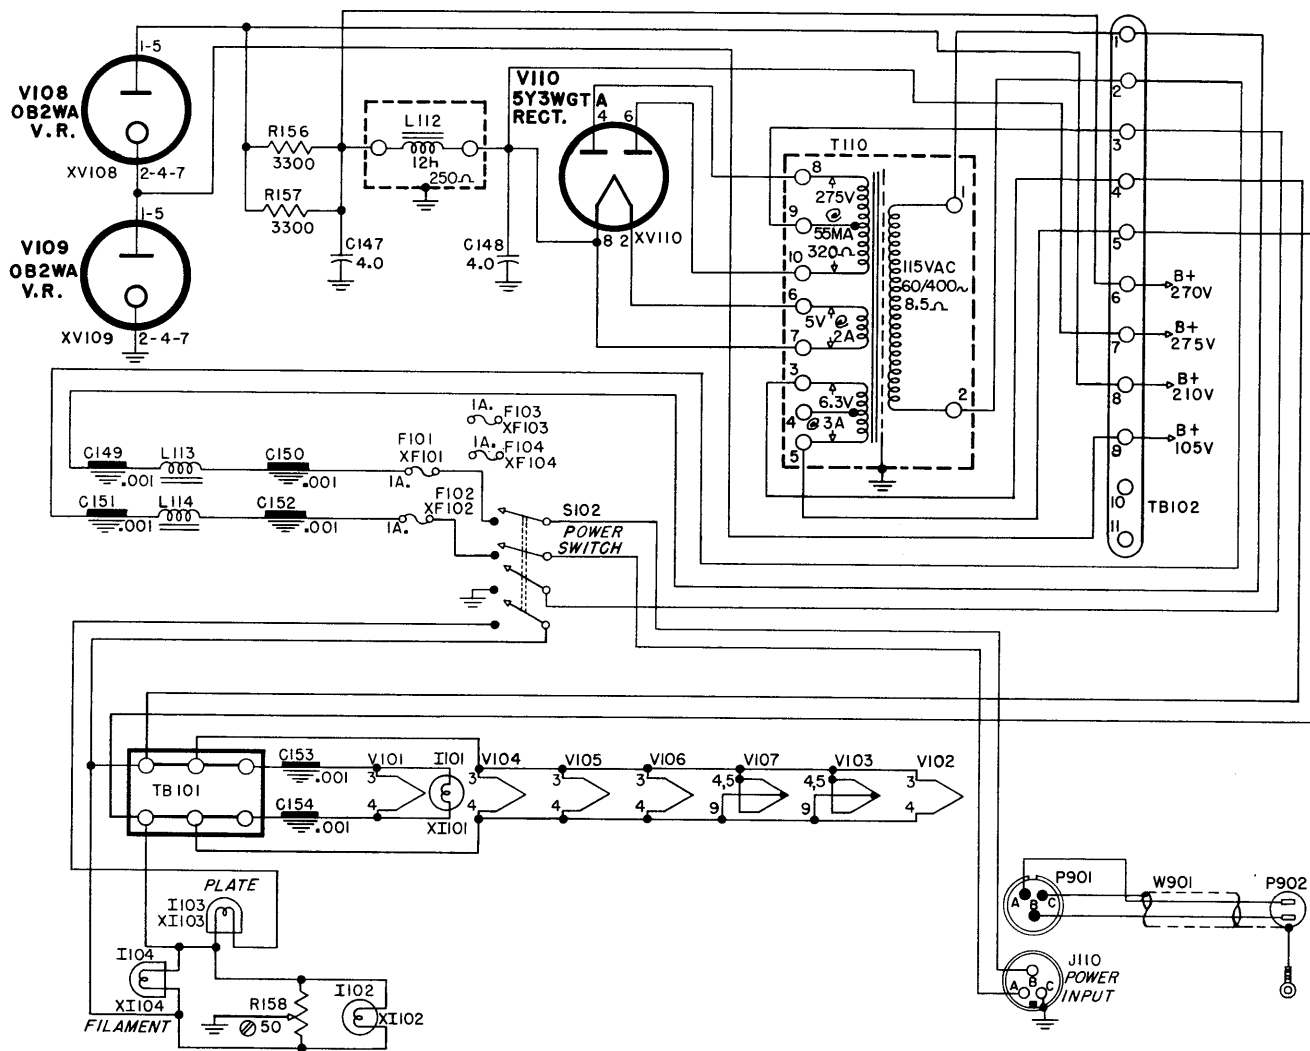

Figure 2-9. Power Supply, Simplified Schematic Diagram
j. POWER SUPPLY (See Figure 2-9).—All of the heater and plate voltages required by the Field Strength Meter are furnished by the built-in power supply. T110 is the power transformer which has a 115 volt, 60 to 400 cycle primary. Three secondaries are provided: a center-tapped 550-volt, 55 ma. high voltage winding, a five-volt, 2-amp. winding for the rectifier (V110) filament and a 6.3 volt, 3-amp. winding for the heaters of all the other tubes.